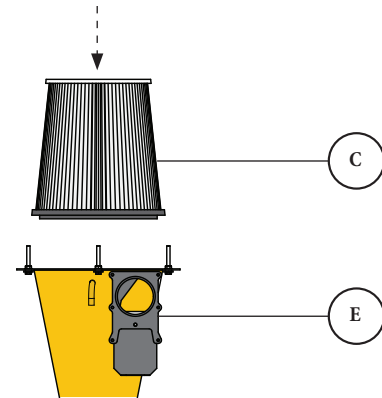

FIG. 16
Place the Filter (C) on top of the Cyclone (E) with the open side facing down [FIG. 16].